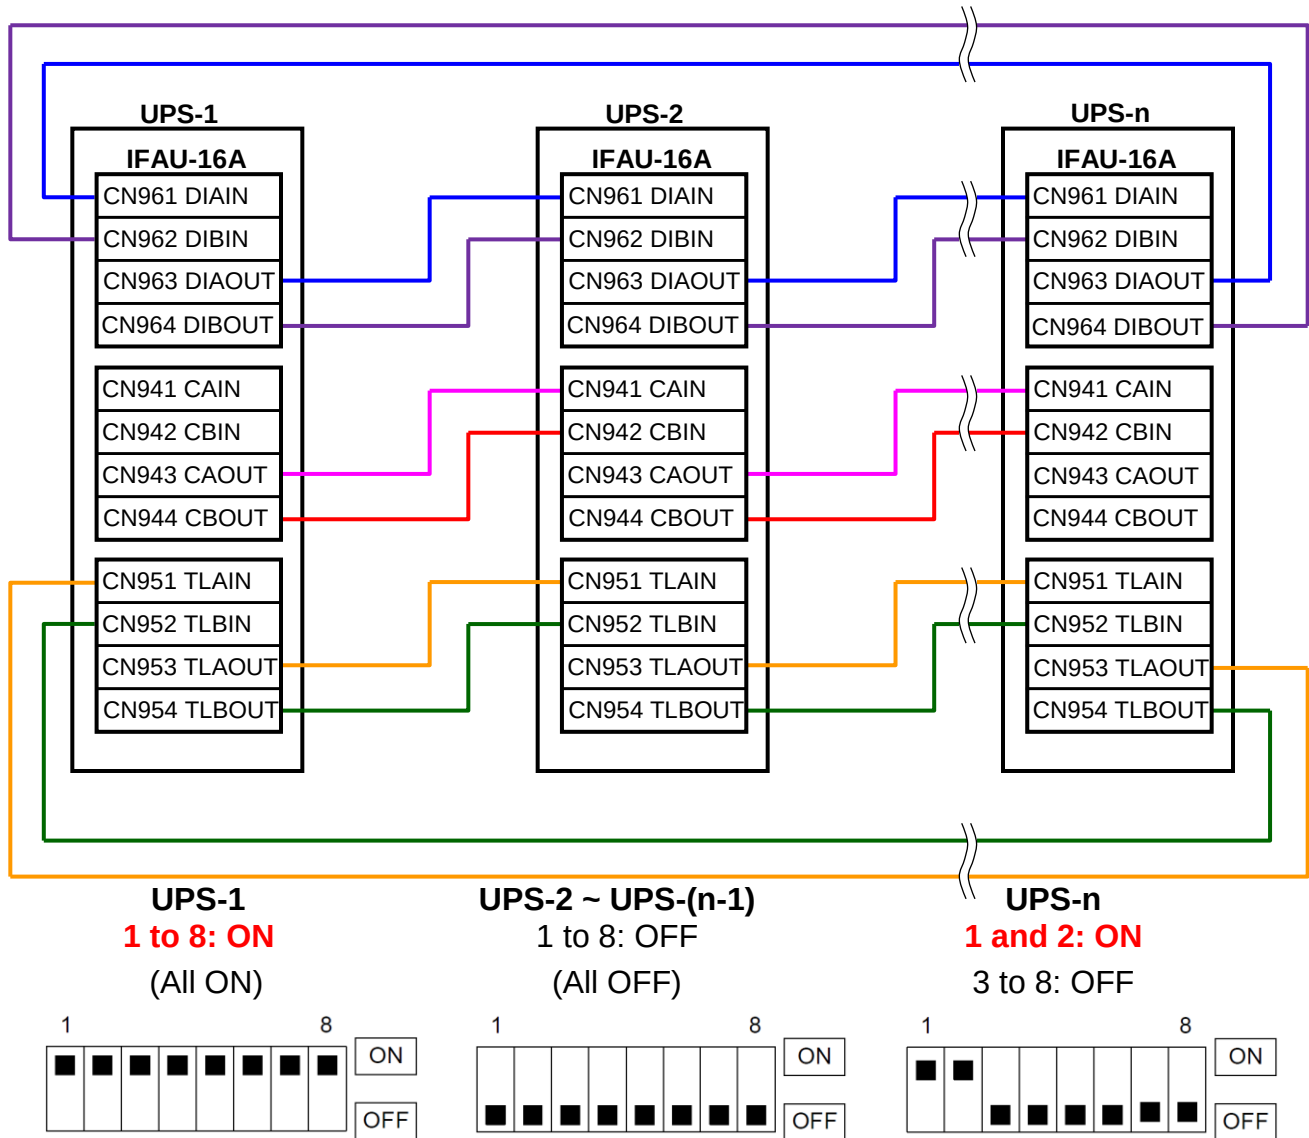

Figure 5-7 Detail of IFAU-16A Control Wire Connections for N units in MMS Configuration
- (1) Confirm the number of units to be connected in parallel. Identify the input/output power terminal blocks and control wire connections for parallel operation systems as shown in the appropriate Figure 5-1 through Figure 5-7.
- (2) Connect the external control wire and power wire.
Parallel control signals, for TLAIN, TLAOUT, TLBIN, TLBOUT, CAIN, CAOUT, CBIN, CBOU, DIAIN, DIAOUT, DIBIN, DIBOUT as shown in Figure 5-6 and Figure 5-7)